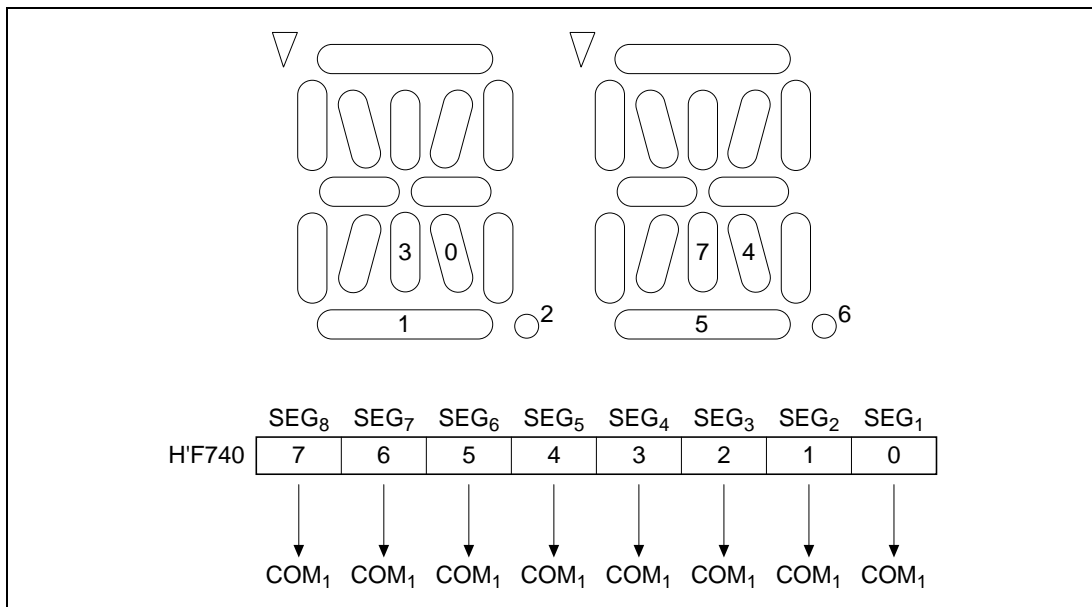

Figure 6 Relation between LCD Lit/Unlit States and LCD RAM Settings
7. Figure 6 shows the relation between the LCD RAM addresses and the segments SEG₁ through SEG₈ of the 16-line 8-character segment LCD. As the figure indicates, when the LCD RAM bits corresponding to 0 through 7 are set to 1 the corresponding LCD areas are lit, and when cleared to 0 the corresponding LCD areas are unlit.